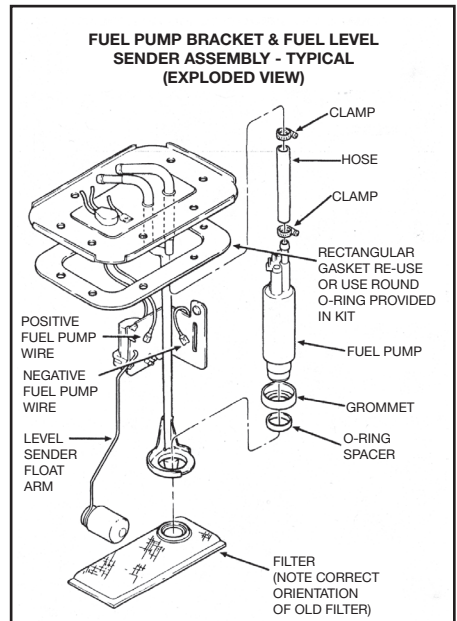

Fig. 1
1. Insert the new pump inlet into the rubber grommet supplied in the installation kit. Next, slip the O-ring spacer supplied in the kit onto the inlet of the pump (See Fig. 1).
Install the filter on the pump. Take note that the orientation tab on the bracket must be bent back. The new filter must be in the same orientation as the old filter or the float arm of the level sender may be obstructed and cause incorrect fuel level indication (See Fig. 1). Make sure the filter is fully seated on the pump and will not fall off. Without proper filtration, damage to the pump may occur. Failure to use the new filter provided in the kit voids the pump warranty.
Install the pump bracket into the fuel tank, using the new O-ring tank seal for brackets with a round top, or re-use the rectangular gasket for brackets with a rectangular top (See Fig. 1).